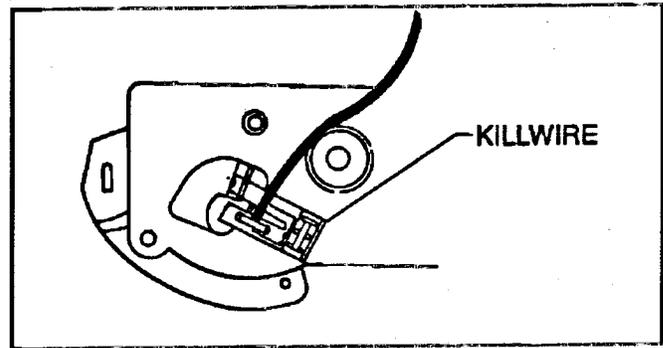

Figure 45
1. Note the routing of the ignition ground (kill) wire, this will make reinstallation easier. Disconnect the ignition ground wire from the terminal on the back of the throttle bracket. See Figure 45.